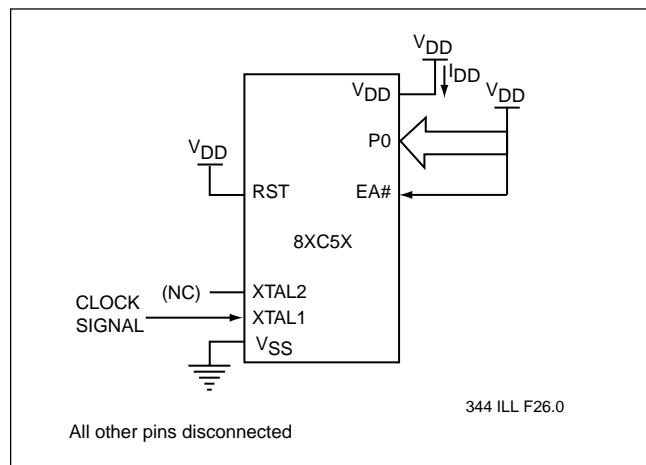

FIGURE 22: I_{DD} TEST CONDITION, ACTIVE MODE
7. See Figures 22, 23, 24 and 25 for test conditions. Minimum V_{DD} for Power Down is 2.7V.